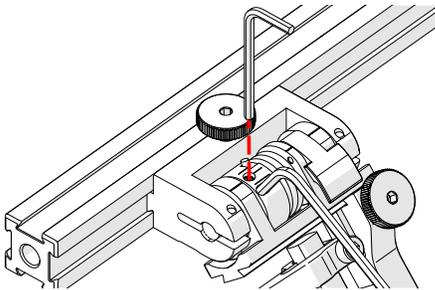

Fig. 112 - Insert hex tools
4. Place the 2 mm hex wrench into the force adjustment screw (Fig. 112).